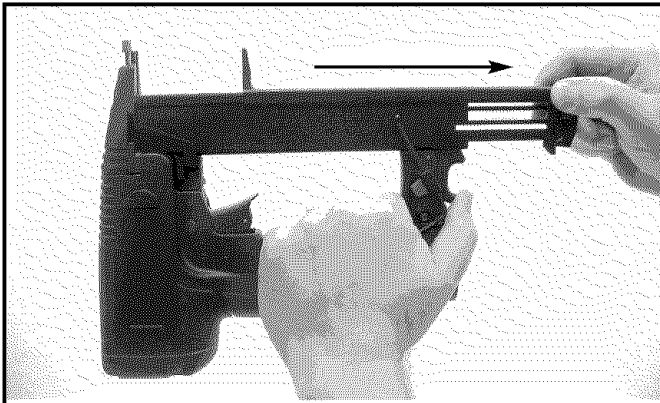

Figure 2 - Open Magazine
Refer to Figures 2, 3 & 4 (page 4).
- Turn tool upside down, depress latch and slide magazine cover open (see Figure 2).